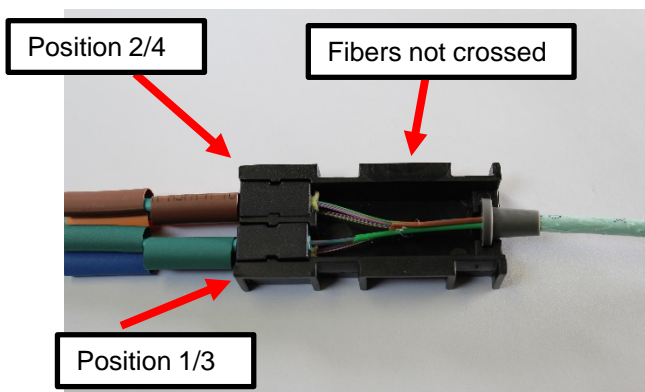

Figure 7
8.1 Carefully place the Breakout Unit Assemblies into the Base Unit cavity to maintain correct number sequence. **See Figure 7 and Section 8.2**